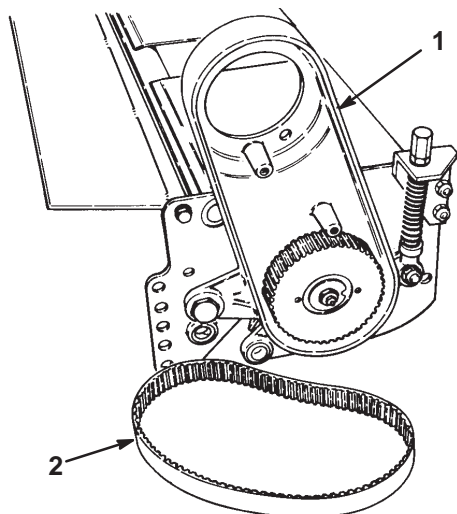

Figure 30
4. Disassemble the cone nut from the shoulder bolt securing the bearing housing to the sideplate, remove the Belleville washer and bolt, and slide the bearing housing off of the reel shaft (Fig. 30).
5. Remove the cover from the drive housing and remove the drive belt from the housing (Fig. 30).